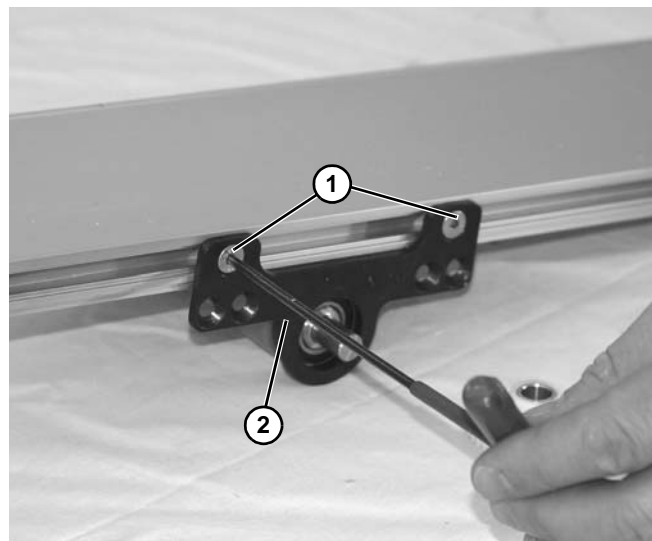

Figure 37
3. Remove two screws (**Figure 37, item 1**) from each side of pinch plate (**Figure 37, item 2**).